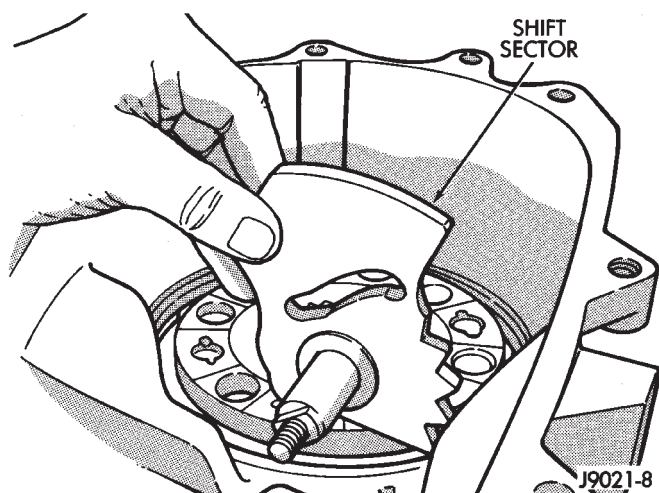
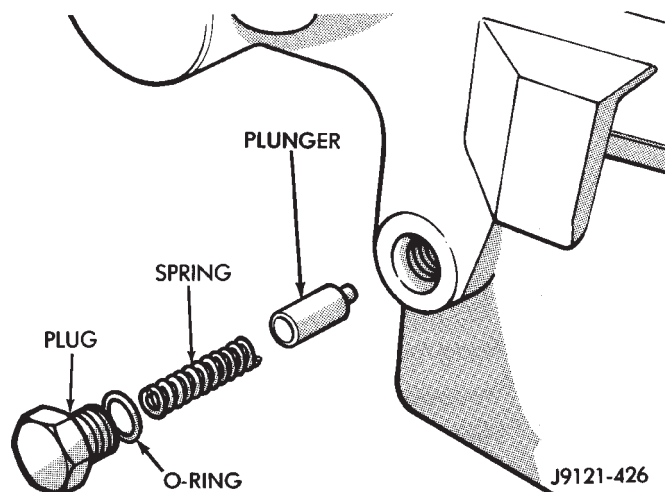

Fig. 40 Installing Shift Sector
Fig. 41 Installing Detent Plunger-Spring-Plug
- (22) Install shift sector in the case (Fig. 40).
- (23) Install range lever and lever attaching nut on shift sector. Tighten attaching nut to 30 N•m (22 ft. lbs.) torque.
- (24) Install detent plunger, spring and plug (Fig. 41). Tighten plug to 20 N•m (15 ft. lbs.) torque.